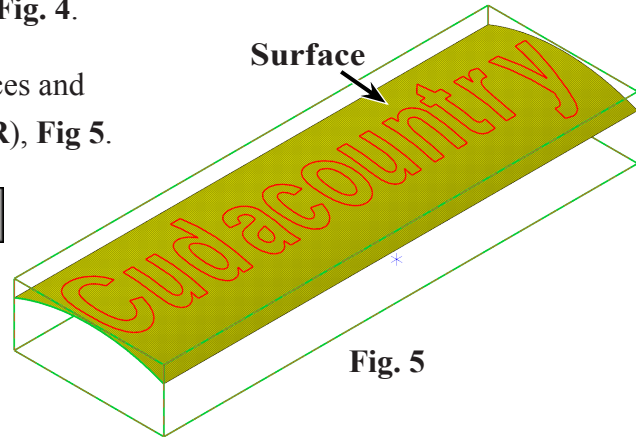

Fig. 5
Step 3. Click the **surface** to select as Drive Surfaces and click **End Selection**  (**ENTER**), **Fig. 5**.
Step 3. Click the **surface** to select as Drive Surfaces and click **End Selection**  (ENTER), Fig. 5.